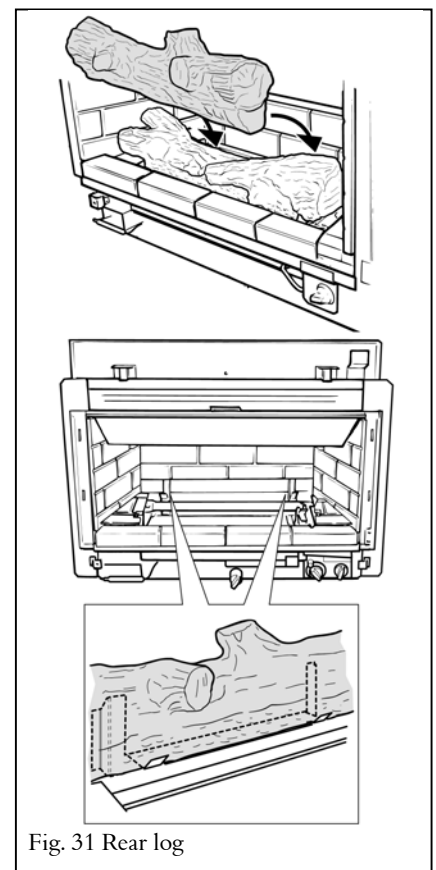

Fig. 31 Rear log
- 7.8.6 Install the rear log in the two supports at the rear of the firebox. Make sure that the log is fully located in the “V” forms of the supports (fig. 31).